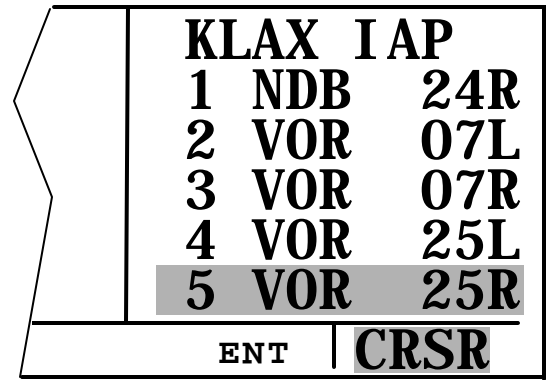

Figure 3D-57. Selecting the Approach
3. Turn the right cursor on. The right cursor comes up on the first approach in the list of approaches. Use the right outer knob to move the cursor to the different approaches. Refer to Figure 3D-57. If there are more than five approaches to an airport, move the cursor down to scroll the other procedures into view by rotating the right inner knob clockwise.